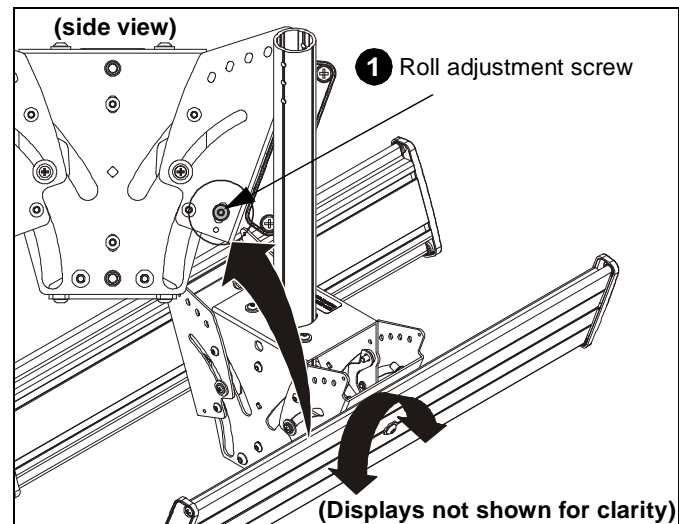

Figure 10
1. Turn the roll adjustment screw in the direction necessary for the desired roll. (See Figure 10)